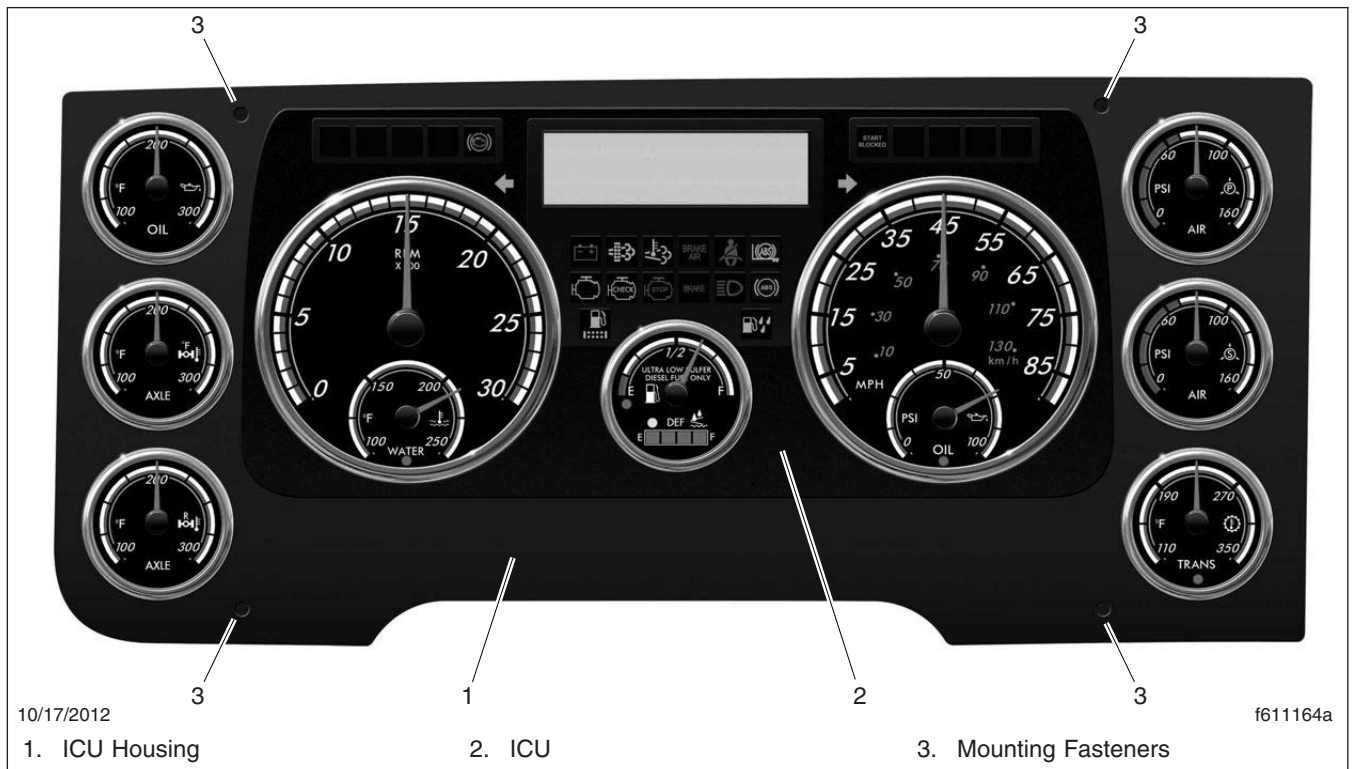

Fig. 4, ICU Mounting Screws
10. Remove the mounting fasteners from the ICU. See Fig. 4. Tilt the ICU forward to expose the connectors. See Fig. 5.